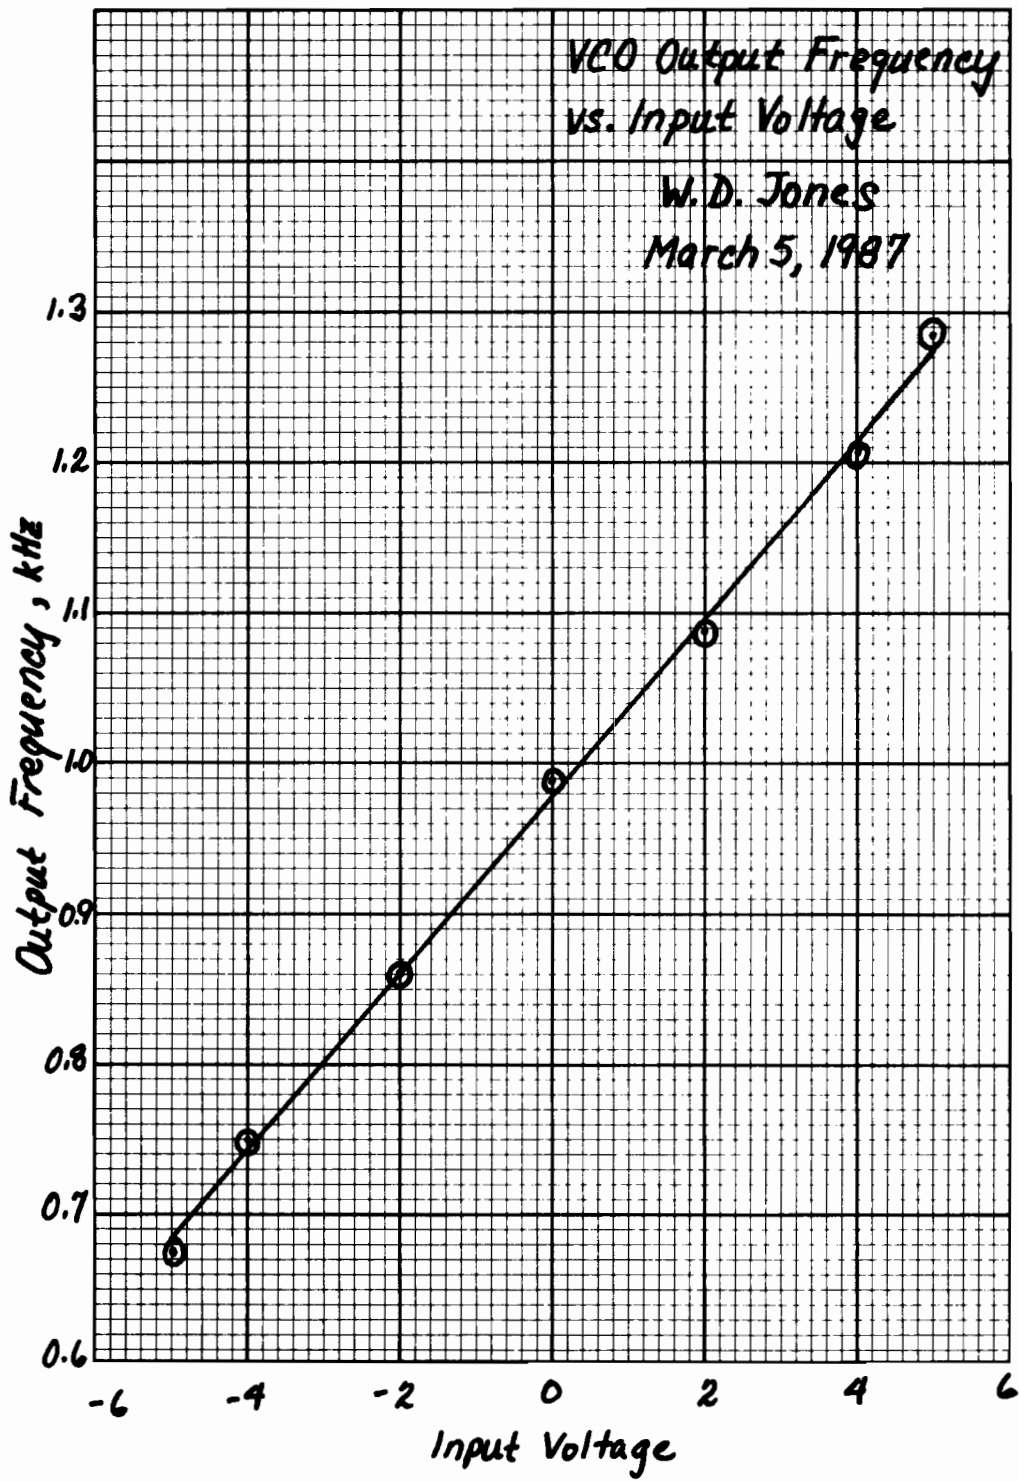

FIGURE 4 Sample hand-drawn graph.
- The data points should be connected smoothly with the best-fit straight line between all points, or with a “French curve” to construct a smooth curve between points. Figure 4 shows an example of a completed hand-drawn graph of the measured output frequency of an oscillator as the input voltage is varied.